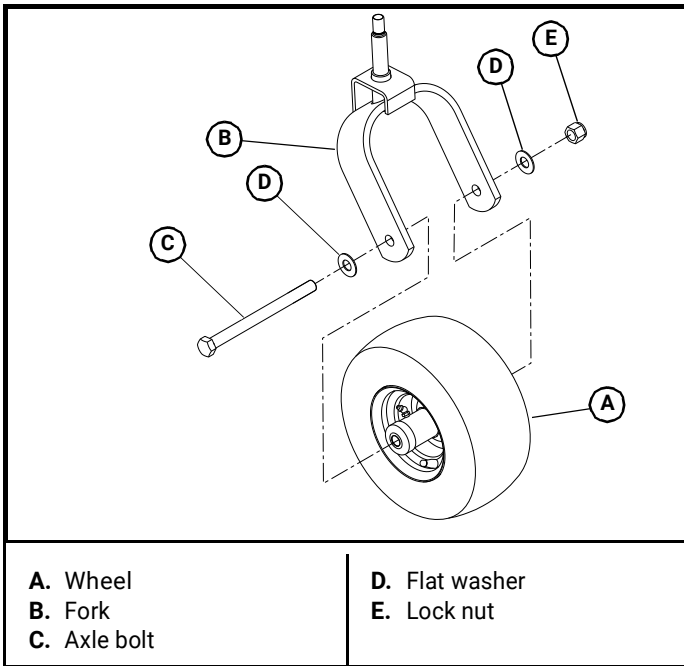

Figure 4-27
3. Remove the wheel from the fork by removing the axle bolt, flat washers, and lock nut. Figure 4-27